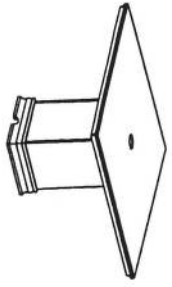

FIGURE 3
3. Table image complete (fig. 3).